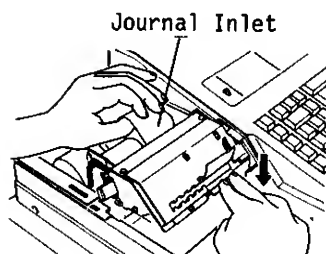

Fig. 9
5. Insert the paper end into the Journal Inlet, feed the paper in while pressing down the Free Lever (or feed the paper in while pressing the [JF] key. (Fig. 9)